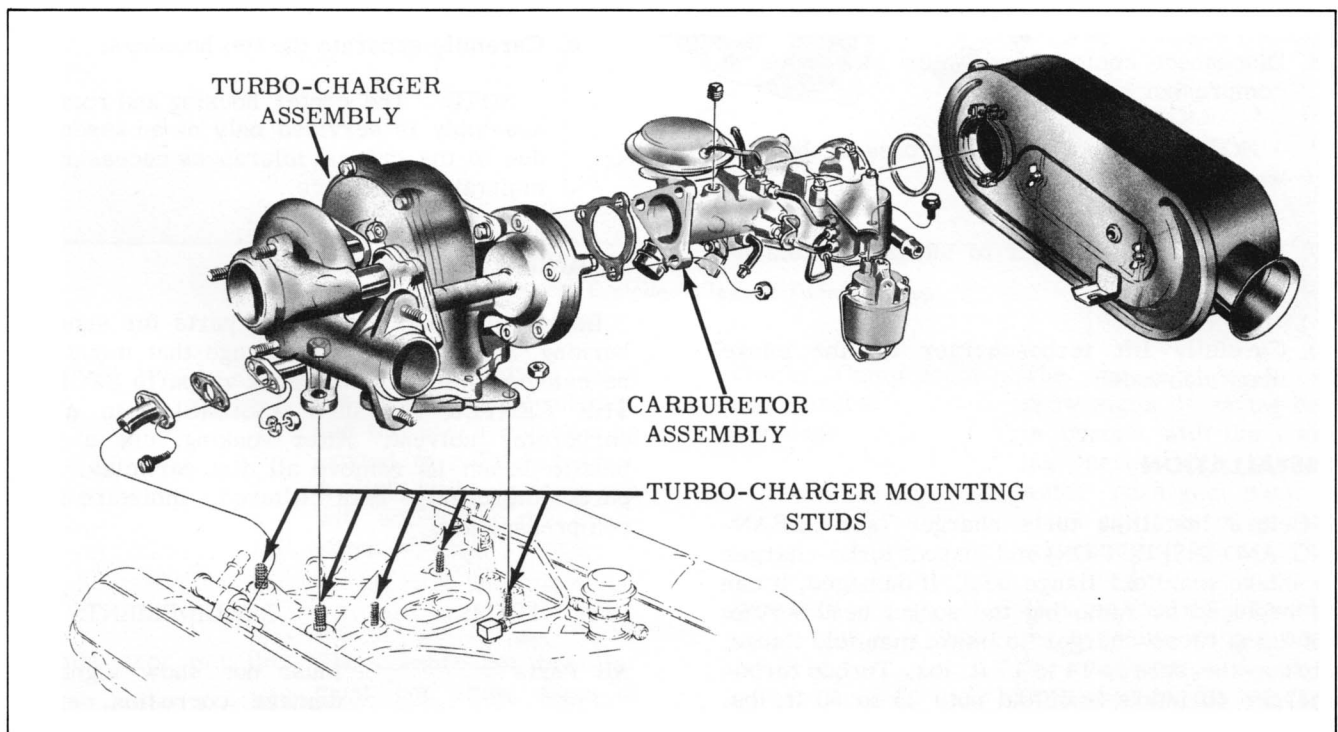

Fig. 8-107 Turbo-Charger and Carburetor Attachment
REMOVAL (Fig. 8-107)
4. Apply air, 15 to 20 p.s.i. to the pressure port first and then the vacuum port to free diaphragms. (Fig. 8-107)
5. Remove the two (2) bolts while holding cover and spring compressed, then remove cover and spring.